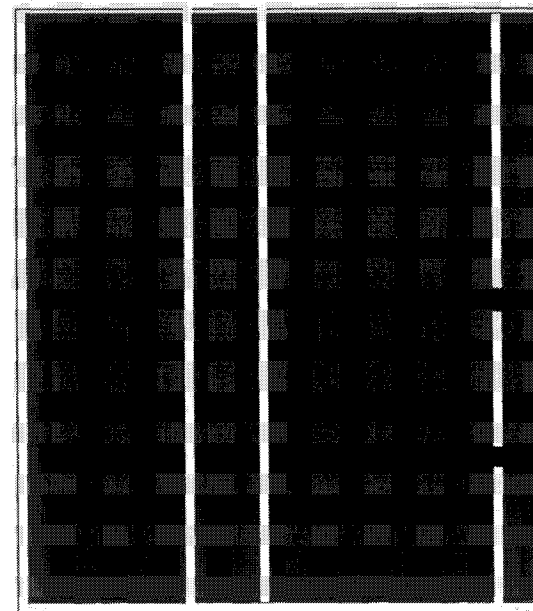

Figure 1. Vertical deletions
- The deletions extend vertically across the long dimension of the page (Figure 1).